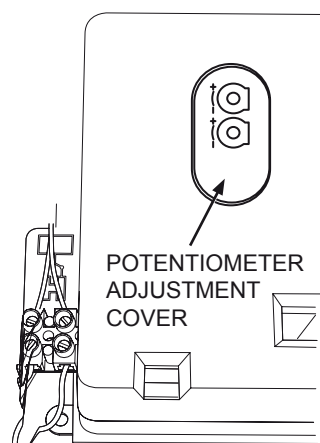

Figure 15.1
15.1 The boiler incorporates 4 potentiometers and a bank of dip switches to allow adjustment to its pre-set parameters. These are situated on the rear of the control panel. (Figure 15.1) The potentiometers can easily be accessed by removing the cover on the rear of control panel (Figure 15.1). However, to reach the dip switches, the control panel must be opened. Factory settings for potentiometers shown below